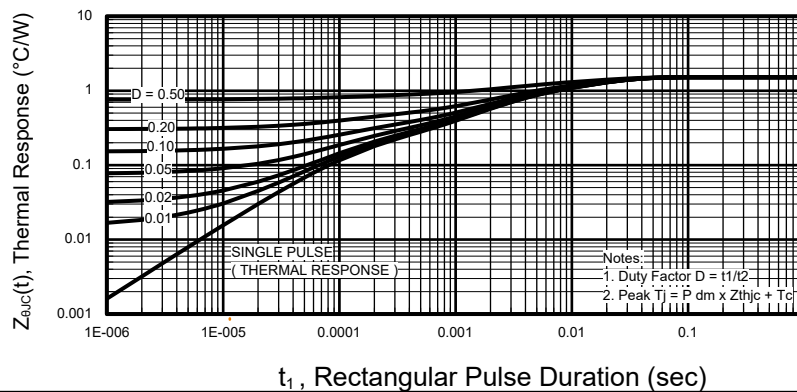

Figure 20: Maximum Effective Transient Thermal Impedance, Junction-to-Case
7. ΔT = Allowable rise in junction temperature, not to exceed T_{jmax} (assumed as 25°C in Figure 20, 21).